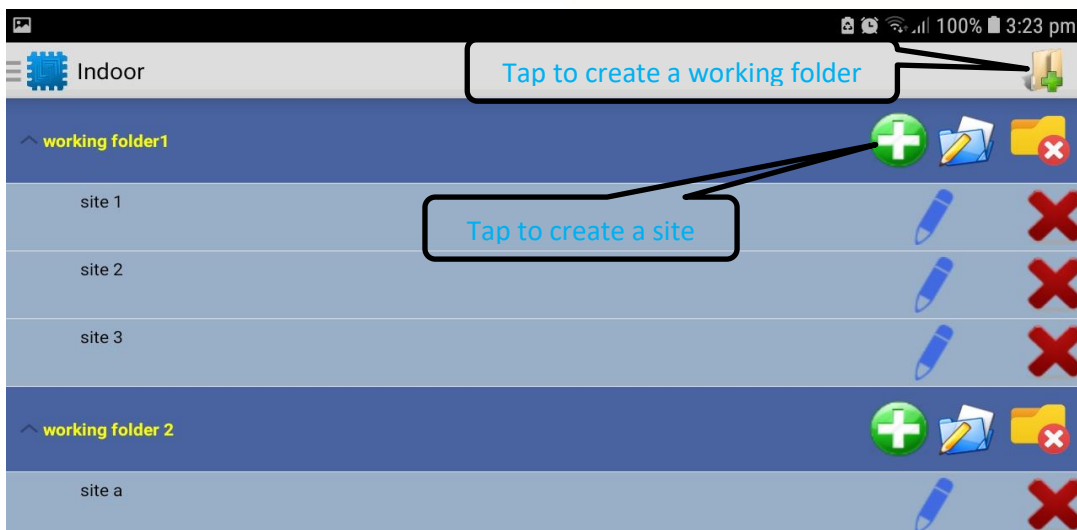

Figure 7: WalkView Session Manager
2. Create a new working folder this is where all the measurement data will be saved as depicted in Figure 7 below,
3. Create a new site as depicted in Figure 7 above